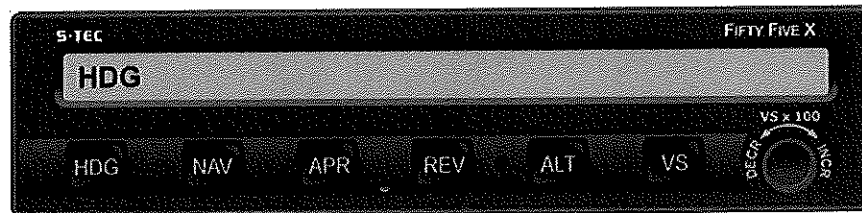

Fig. 2-6. AP Display, HDG Mode Engaged (Pre-Flight)
3. Press HDG mode selector switch to engage heading mode.	HDG annunciation alone appears on AP display, as shown in Fig. 2-6.